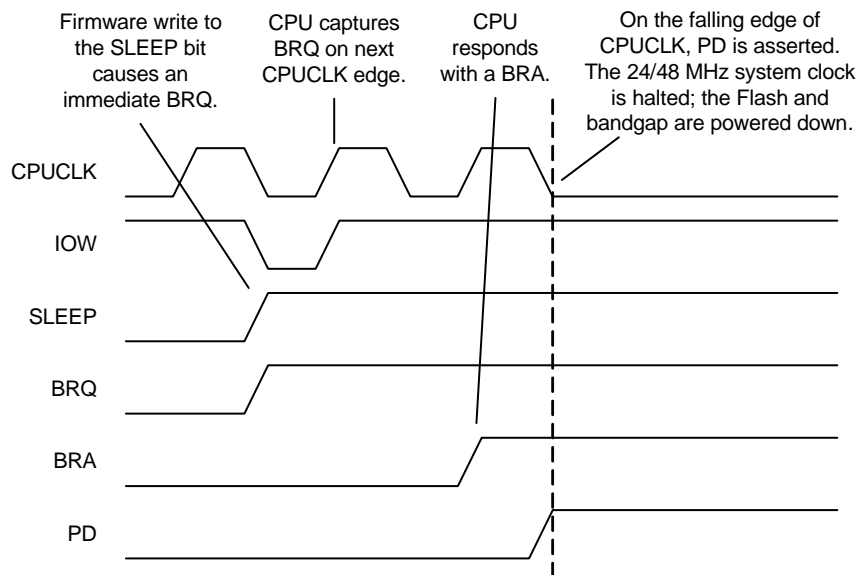

Figure 12-1. Sleep Sequence
The Sleep bit, in the CPU_SCR0 register, is an input into the sleep logic circuit. This circuit is designed to sequence the device into and out of the hardware sleep state. The hardware sequence to put the device to sleep is shown in Figure 12-1 and is defined as follows.
3. The sleep logic waits for the following **negative edge** of the CPU clock and then asserts a system-wide Power Down (PD) signal. In Figure 12-1, the CPU is halted and the system-wide power down signal is asserted.